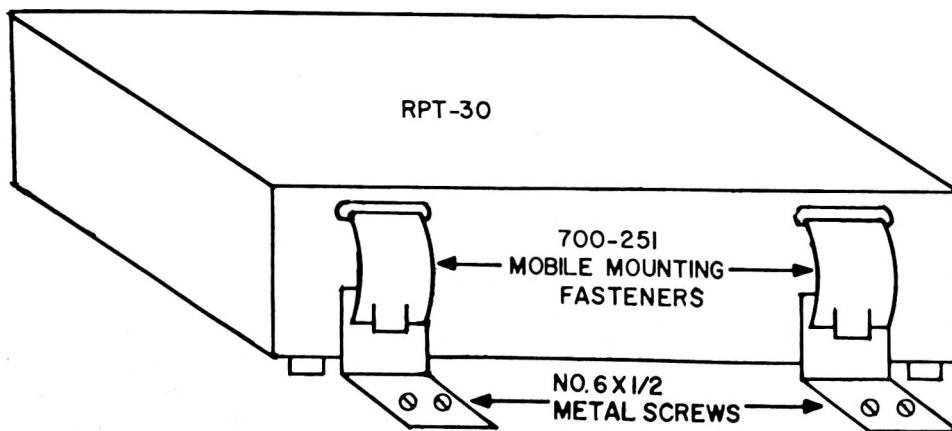

FIG. 1
2. Hook the four mounting fasteners (in retracted position) in the four slots on the sides of the transmitter. See Fig. 1. (Fasteners are in Mobile Mounting Kit 700-251.)